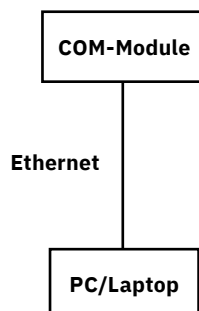

Figure 13: Establishing a direct connection with a PC/laptop
- The schematic setup is shown in *Figure 13*.